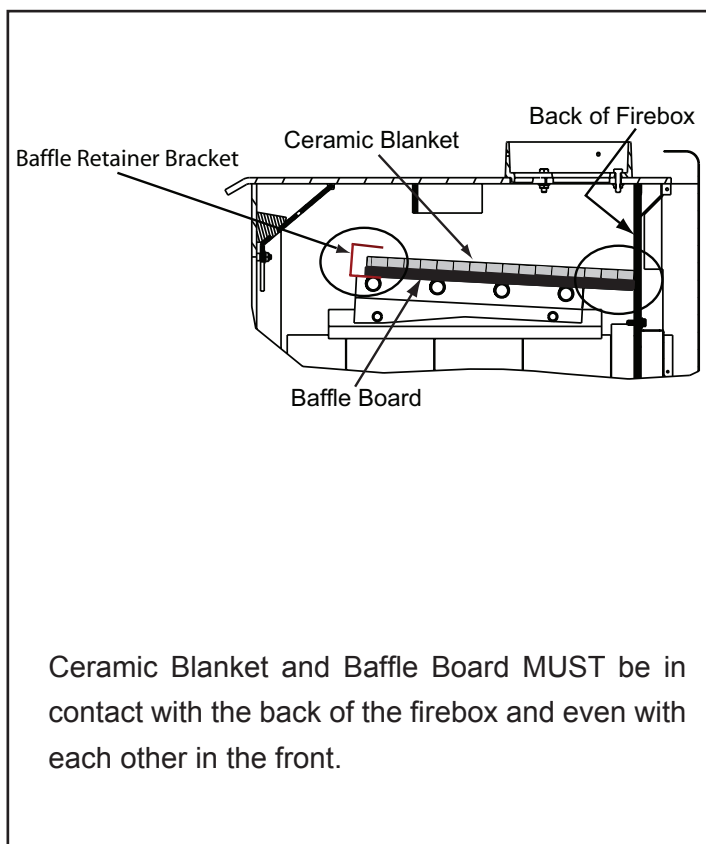

Figure 11.1
- When the control is raised all the way up it is on the High setting and when pushed all the way down it is on the Low setting. **Figure 11.1** on page 11.